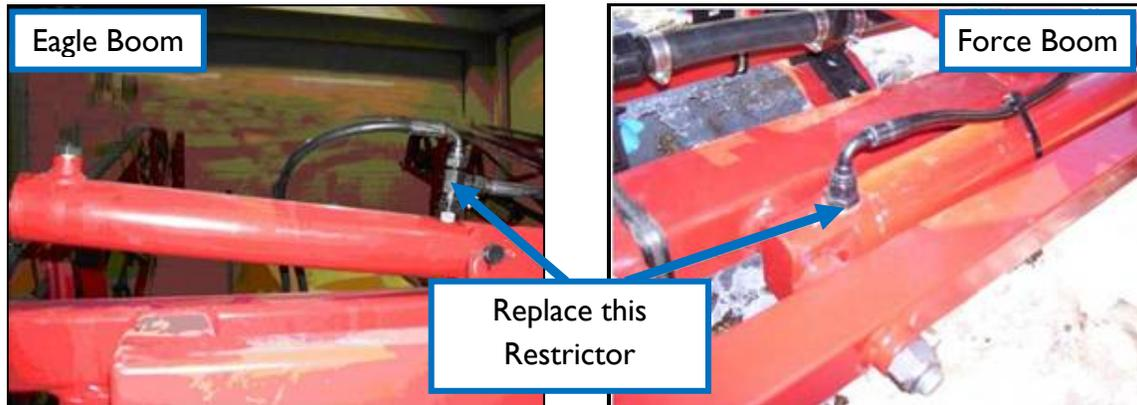

Figure 26: Restrictor to be Replaced on the Tilt Cylinders
10. Remove the Hardi hoses from the “raise” line (the “B” line) of the cylinder and remove the restricted straight BSPF fittings. **(Figure 26)**
10. Remove the Hardi hoses from the “raise” line (the “B” line) of the cylinder and remove the restricted straight fittings. (**Figure 26**)